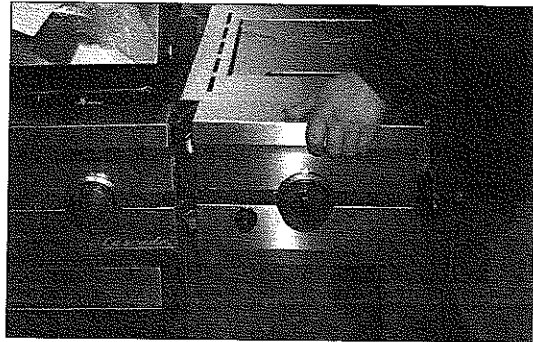

Fig 9
9. Lift the right side shelf, let the front two inserts slide out of the two slots on the right side of the grill front face. Then remove the right side shelf. (See Fig. 9)
35. Attach the right shelf by inserting the two shelf hooks into the slots on the right side of the front face and let the heads of the screws loosened in step 7 go through the holes on the back bracket of the right side shelf. (See Fig. 9 on page 3)